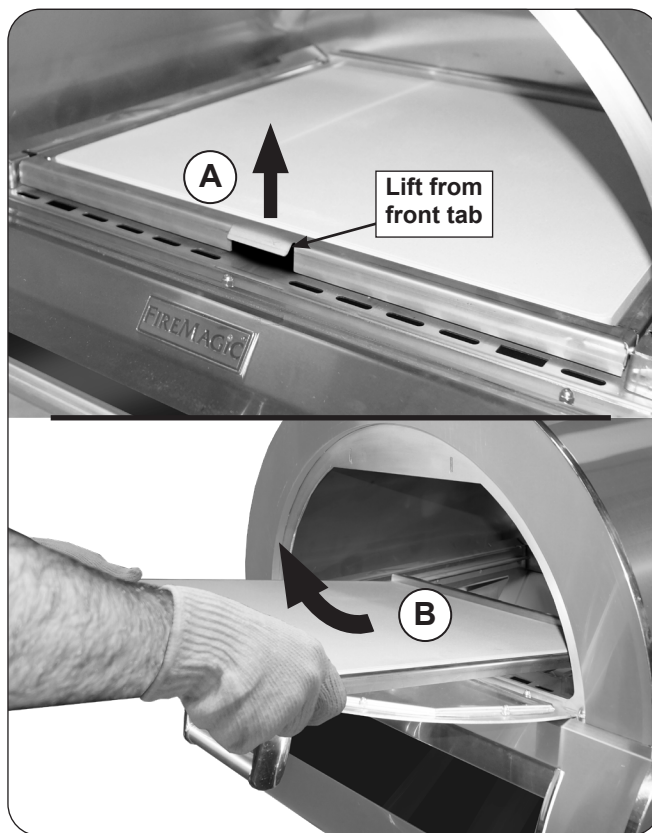

Fig. 45-2 Stone/frame removal
2. Grasp the center front tab of the pizza stone support frame and carefully lift upward to free the notches from the left and right side rail pegs (see Fig. 45-2, A).
4. Reposition your hands from the front tab to the sides of the frame. Lift the frame upward and out of the oven. See Fig. 45-2, B.